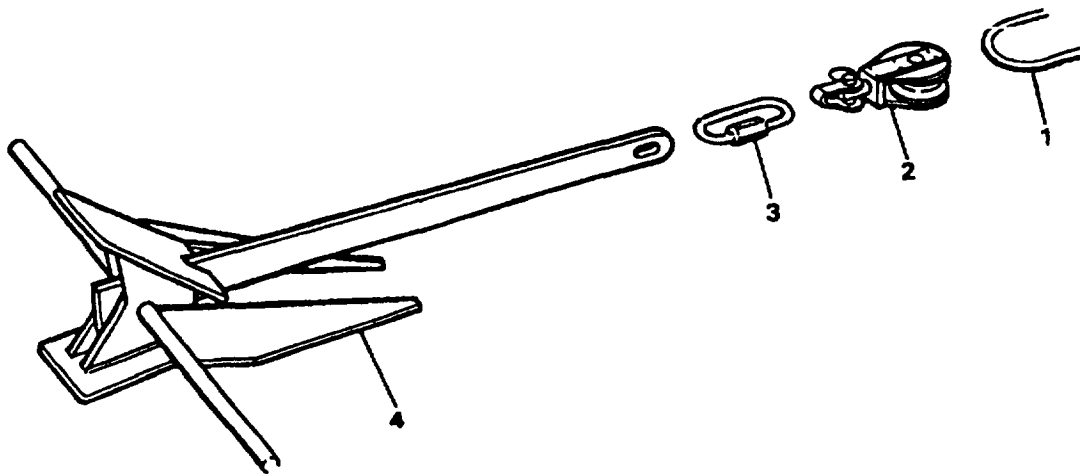

Figure 3-1. Repair Anchor and Anchor Rope
- a. Check the exposed rope (1, Figure 3-1 ) for cuts or fraying.
- b. Use the anchor rope to pull in the anchor. Check the rope and pulley (2) for damage or clogging of the pulley with debris. Check anchor for damage.
- a. Clean debris from rope, pulley, retaining link (3) and anchor (4).